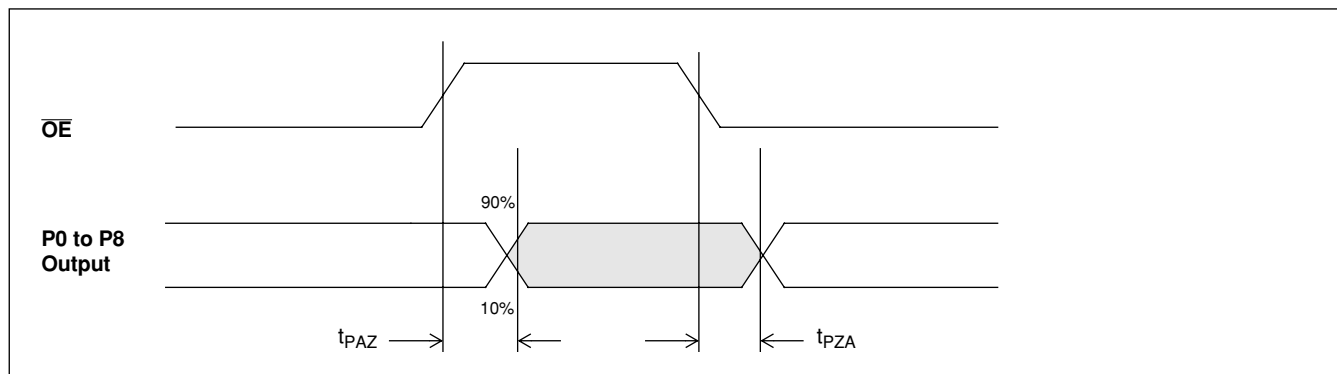

Figure 20 -  $\overline{OE}$  Timing in Serial to Parallel Mode
**AC Electrical Characteristics† - Output Enable Timing, Serial to Parallel Mode (See Figure 20)** - Voltages are with respect to Ground ( $V_{SS}$ ) unless otherwise stated.